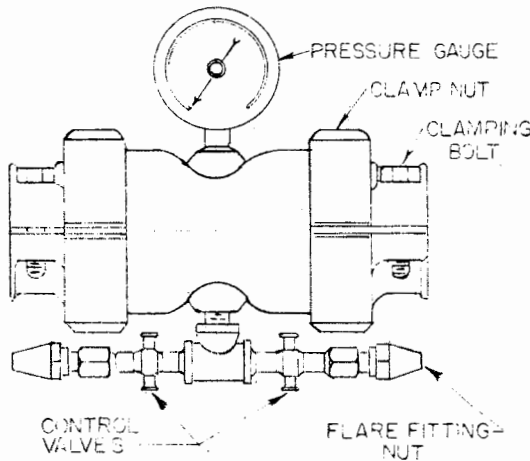

Figure 11-71. Gas-Admission
- f. Gas-admission coupling (see Figure 11-71).